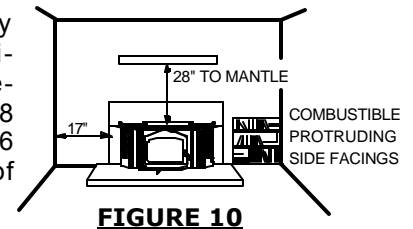

FIGURE 10
Do **NOT** remove bricks or mortar from the fireplace. In case of an outside air inlet or ash dump, fill with fiberglass insulation. Adhere to minimum clearances as shown in **FIGURE 10**.
2. Clearances to any combustible material surrounding this insert as identified in Figure 10 must be followed. These clearance requirements supersede any pre-existing facing material clearances listed for the factory built fireplace.